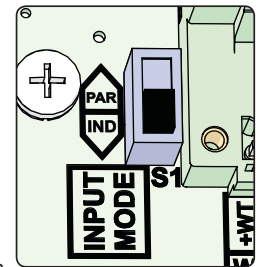

Figure 12
- The default position of switch S1 is set in the IND mode (DOWN) as shown in Figure 12.